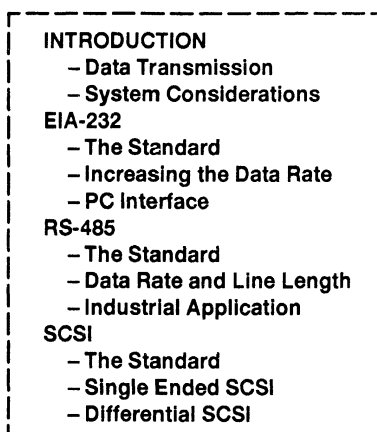

Figure 1–2. Data Transmission Agenda
1. Introduction: This provides an overview of the various factors that affect any data transmission system. Under discussion is the line length versus data rate tradeoff, noise sources, correct line termination and network topology, in addition to explaining the use of eye patterns as a tool to measure transmission quality (see Figure 1–2).
3. EIA RS-485: This section is an overview of the RS-485 specification (see Figure 1–3).
4. EIA/TIA-422-B: This section is an overview of the EIA/TIA-422-B standard (see Figure 1–3).
5. SCSI: In this section we consider the physical layer of this standard that concern both single-ended and differential transmission. For single ended transmission we look specifically at optimizing the line termination to achieve maximum transmission rate over the 6 meter distance as specified in the standard. The differential SCSI system increases the line length to 25 meters and uses the RS-485 standard to achieve this. We also look at TI's new nine channel RS-485 transceiver that minimizes the problems caused by the 18-line wide bus as defined by the standard (see Figure 1–3).